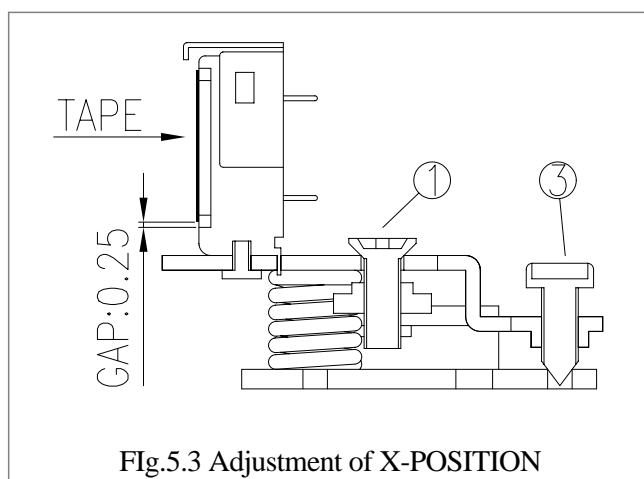

Fig.5.3 Adjustment of X-POSITION
C. Adjustment of the AC HEAD Height(Fig. 5.3)
- If the measurement of the gap is different from the reference value 0.25m, turn the screw ①,③ until the desired gap is obtained.